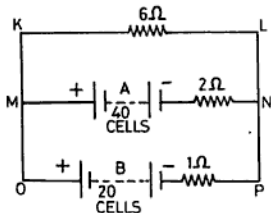

Fig. NE 9.28
- 9.28 Two batteries *A* and *B* are connected in parallel and supply to the circuit shown in Fig. NE 9.28. Battery *A* consists of 40 cells and battery *B* of 20 cells connected in series. The emf and internal resistance per cell is 2 V and 0.05 Ω respectively. Find the value and direction of current flowing in each battery and the $6\ \Omega$ resistance.